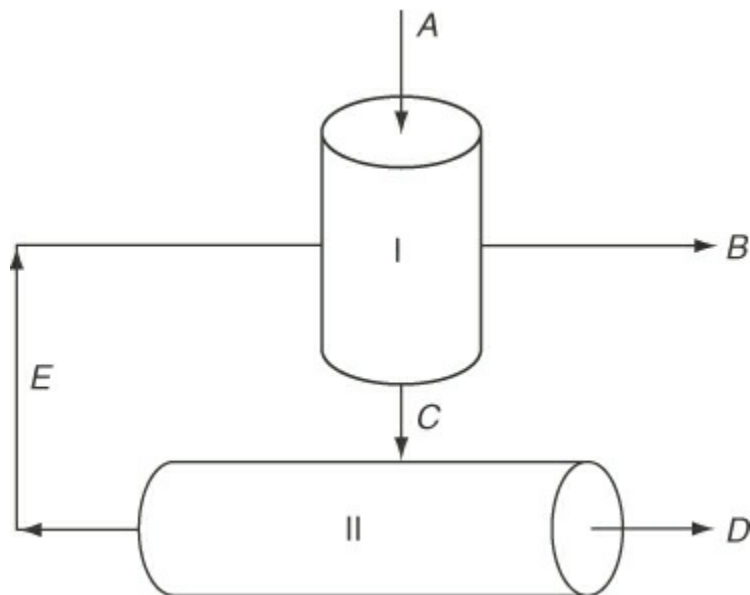

Figure P5.3.4
**5.3.4 In the process shown in Figure P5.3.4, unit I is a liquid-liquid solvent extractor and unit II is the solvent recovery system. For the purposes of designing the size of the pipes for streams C and D, the designer obtained from the given data values of $C = 9630 \text{ lb/hr}$ and $D = 1510 \text{ lb/hr}$. Are these values correct? Be sure to show all details of your calculations or explain if you do not use calculations.